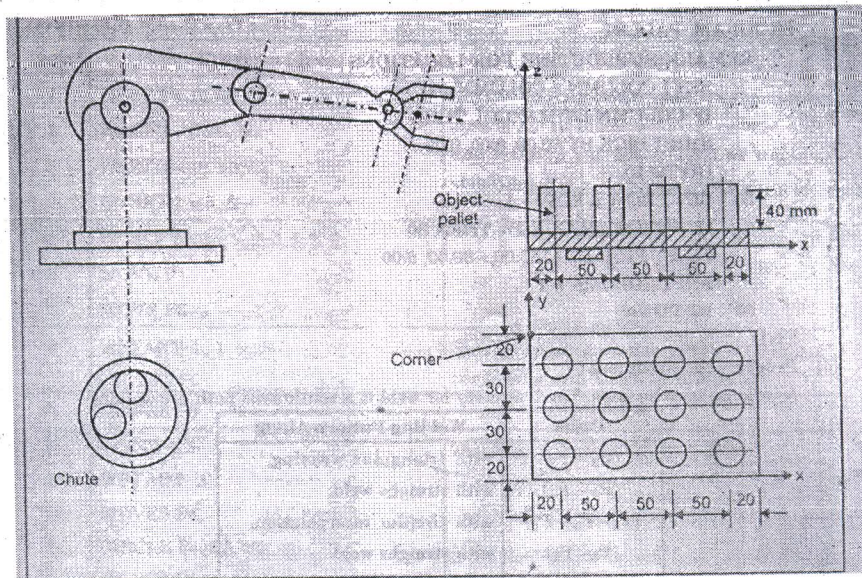

Fig. 2
- Q.5 a) Explain artificial intelligence in robotic system stating importance of expert system. (3)
b) Explain the safety considerations in Robotic system. (3)
c) In robot kinematics a vector is represented by  $V = 5i + 3j + 8k$ . Rotate the vector by 90 degree @ x axis and then use new position for further translation of the position by 8 units along Z axis. (4)
- Q.6 a) Explain the commands used in welding applications. (3)
b) Which robot configuration and controller is suitable for the robot to be used in painting application. (3)
c) Write a program for depalletization of components from pallet to the Chute as shown in Fig.2. Use suitable assumptions if required and use interlocking commands in the program. (4)